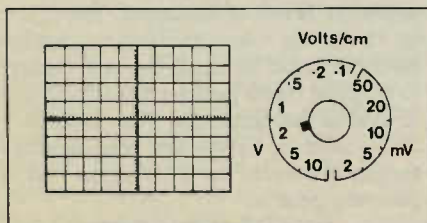

Figure 1. Graticule of CRO and typical Y gain control.
- (1) Y1 Amplifier controls
- (2) Y2 Amplifier controls
- (3) X Timebase/amplifier controls
- (4) Triggering facilities
- (5) Miscellaneous controls
As far as (1) and (2) are concerned, since the signal amplitude can vary between a few millivolts and many volts, provision must be made either to amplify or attenuate the signal to a level that gives a display of sensible size. The Y amplifier gain control is usually stepped and is calibrated in mV/cm or V/cm with a range from, say, 2mV/cm to 10V/cm in a typical case. The relevance of the 'V/cm' is that the graticule (Figure 1) is squared off in cm and sub-divisions along the major axes. A Y gain expressed as 0.5V/cm, for example, means that every cm of screen height corresponds to a deflection of 0.5V. This allows for measurement of voltage by translating the linear dimension of the waveform (cm) to its electrical